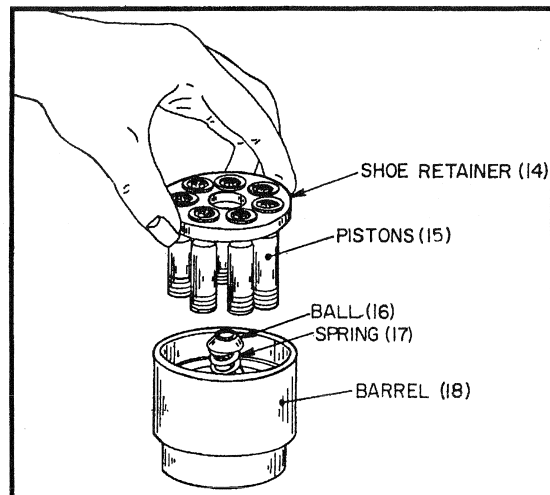

Figure 7. Rotating Group Disassembly (511783).
See Figure 7. Lift out shoe retainer (14) with piston/shoe assemblies (15) and remove fulcrum ball (16) and shoe retainer spring (17).
See Figure 7. Place the cylinder barrel (18), wear surface down, on a clean cloth. Place the shoe retainer spring (17) in the center of the barrel with the fulcrum ball (16) on top of it. Insert the pistons/shoe assemblies (15) into the shoe retainer (14). As a unit, fit the pistons into their bores in the cylinder barrel. **DO NOT FORCE**. If aligned properly, the pistons will fit smoothly.